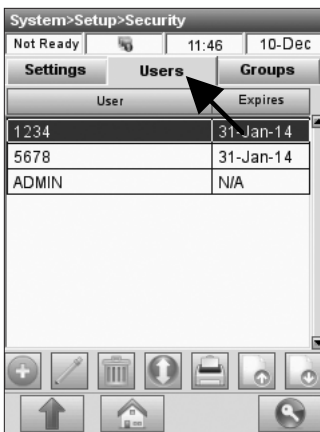

Fig. 3-58 Users
3. Select the **<Users>** tab (Fig. 3-58).
4. Press  (Fig. 3-58) to enter a new user to be added to the list of authorized users.